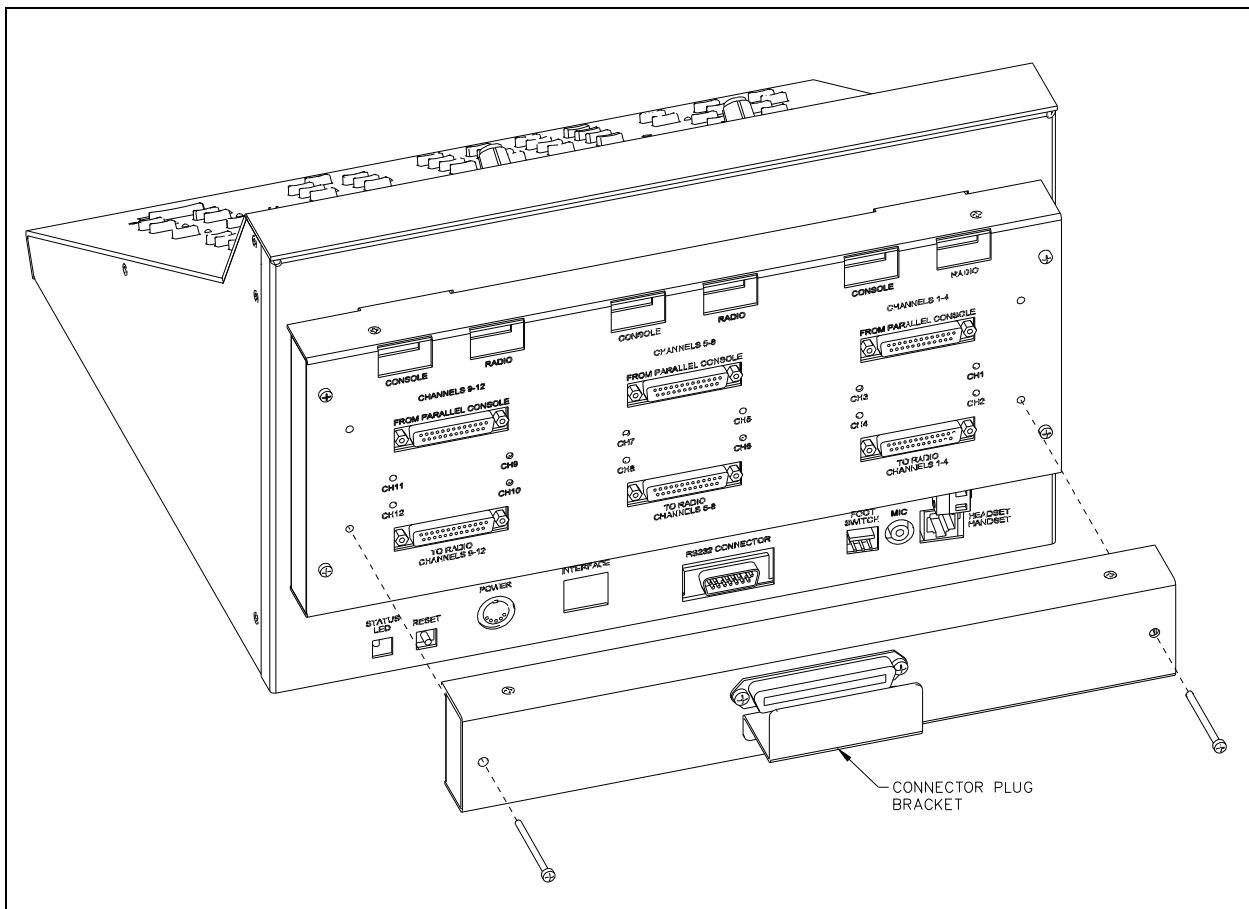

Figure 19.
2. Mount the Telco Interface to the Supervisory unit on the rear of the console. Refer to Figure 19. Position the Telco Interface so that the three DB25 connector plugs line up with the DB25 connector receptacles on the rear panel.
3. Secure the Telco Interface with the supplied #6-32 screws shown in Figure 19, tightening them until the unit is snug against the rear panel.